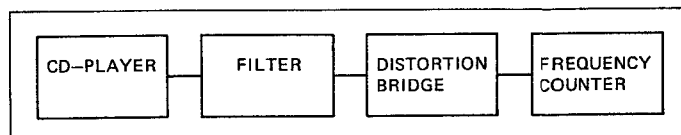

Fig. 4.20
→ Fig. 4.20
- Measuring circuit according to Fig. 4.20 with distortion measurement filter on the VARIABLE OUTPUT [2].